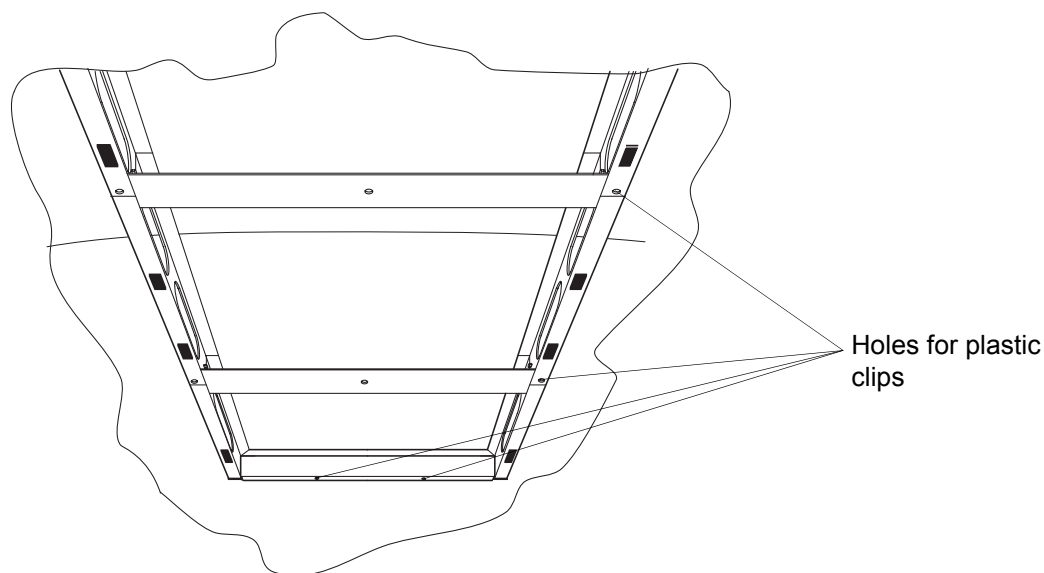

Fig. 410 Air ducting frame
7. Assemble the air ducting frame, comprising the frame end, frame segments and connectors (the number depends on the length of air duct) using Torx 30 oval-head bolts M6 x 16, washers DIN 9021-B6.4-ST-A36 and hexagonal nuts DIN 984-M6-6-A360 (tightening torque 5 Nm) as shown in Fig. 410.
15. Affix strips of expanded rubber under the ducting frame / connecting elements to prevent vibration (see Fig. 410).